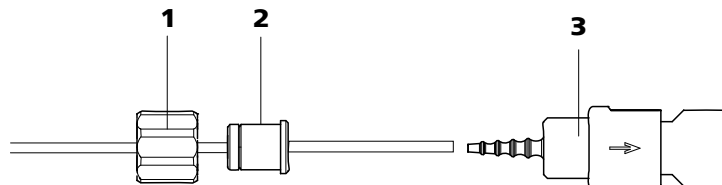

Figure 32 Install pump tubing connection with filter
- **Case A:** a 6.2744.180 pump tubing connection **with filter** (see Figure 32, page 62) or